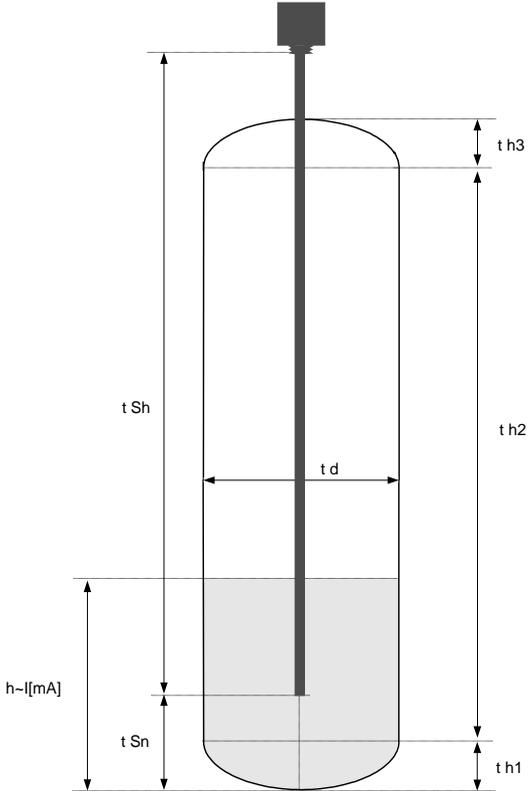
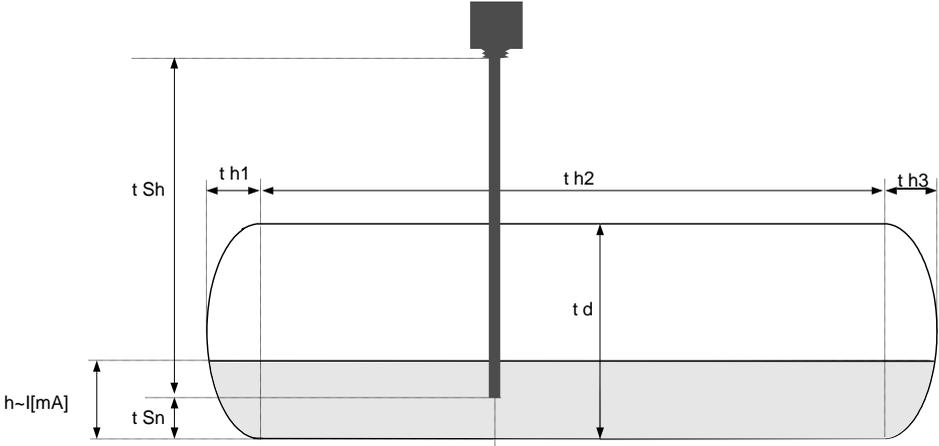

Figure 7.1 Parameters of cylindrical tank in vertical position.
Figure 7.2 Parameters of cylindrical tank in horizontal position.
**„t h1", „t h2", „t h3", „t d"** - the parameters defining shape of cylindrical tank (Figure 7.1 and Figure 7.2).
„**t Sn**”, „**t Sh**” - parameters defining the length and position of the sensor used to measure level of liquids, gases or solids in the tank (Figure 7.1, 7.2).